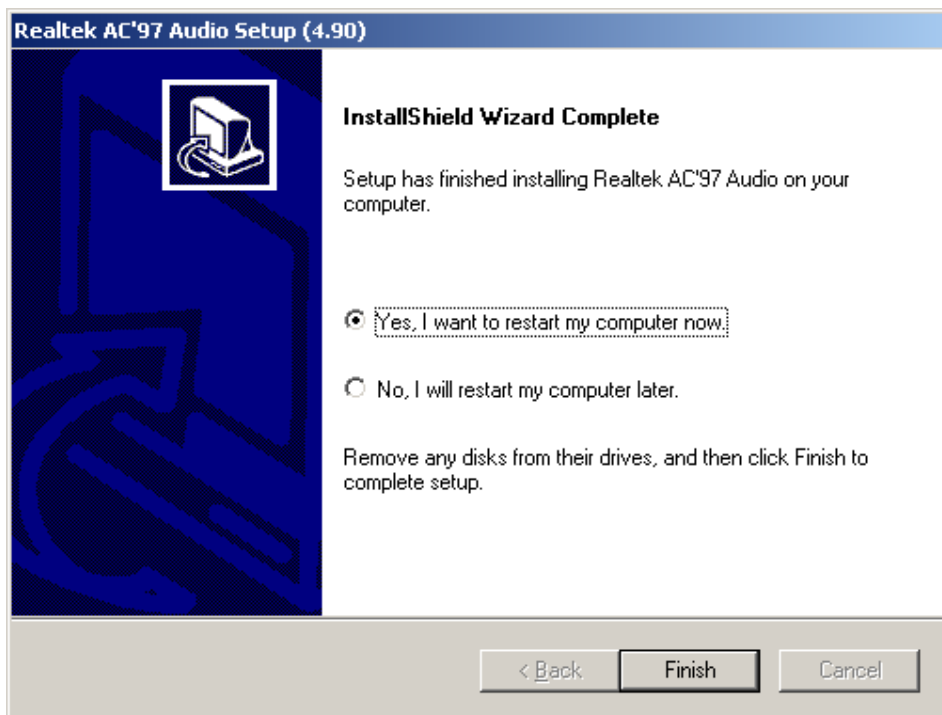

Figure 6-6: Audio Driver Installation Complete
Step 6: After the driver installation process is complete, a confirmation screen appears (**Figure 6-6**).